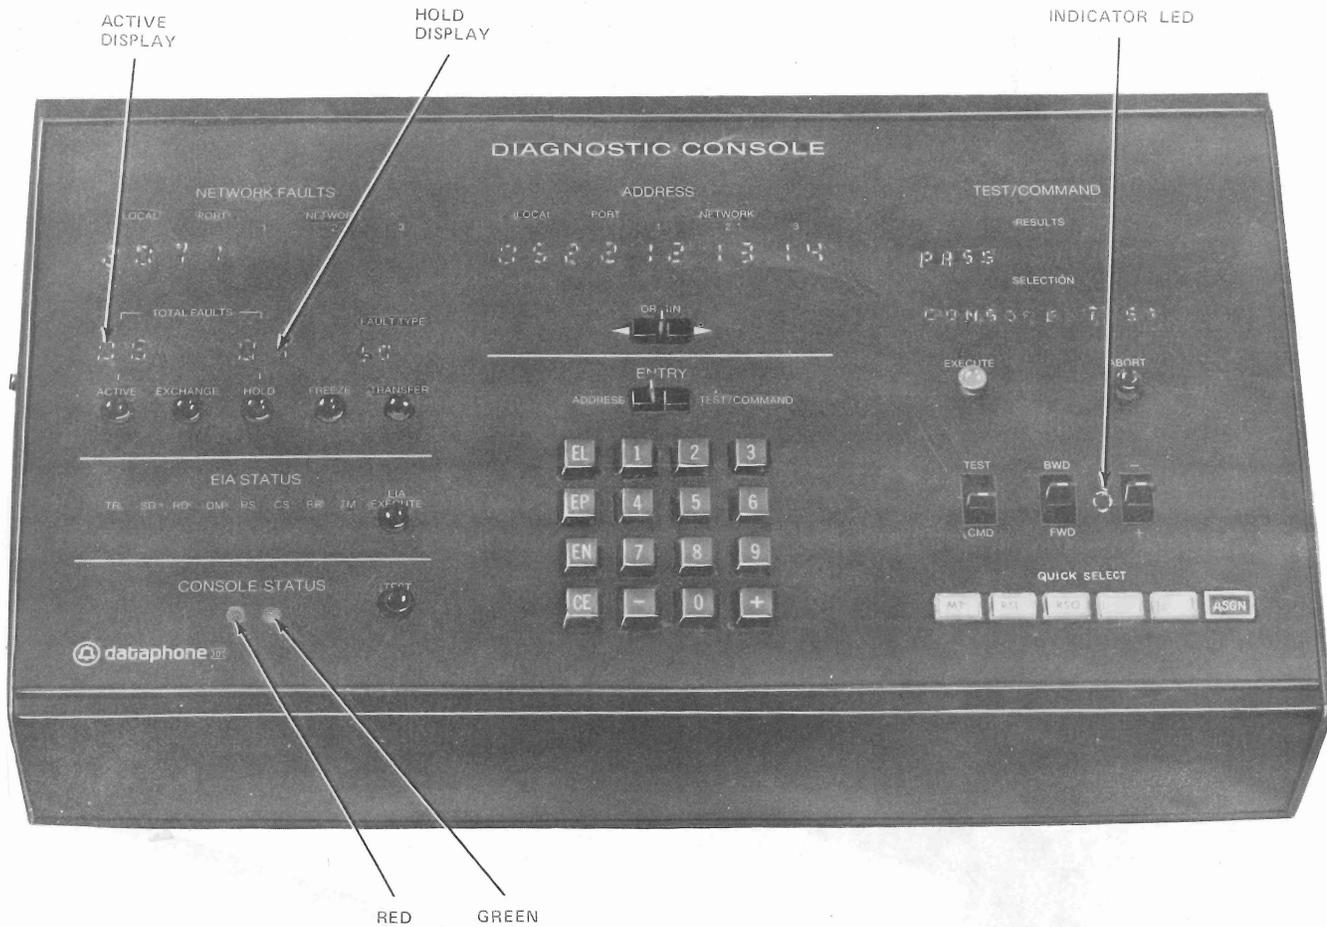

Fig. 3—Diagnostic Console Front Panel
2.06 The following paragraphs provide a description of the DC front panel (Fig. 3) indicators, displays, and switches arranged by functional groups.